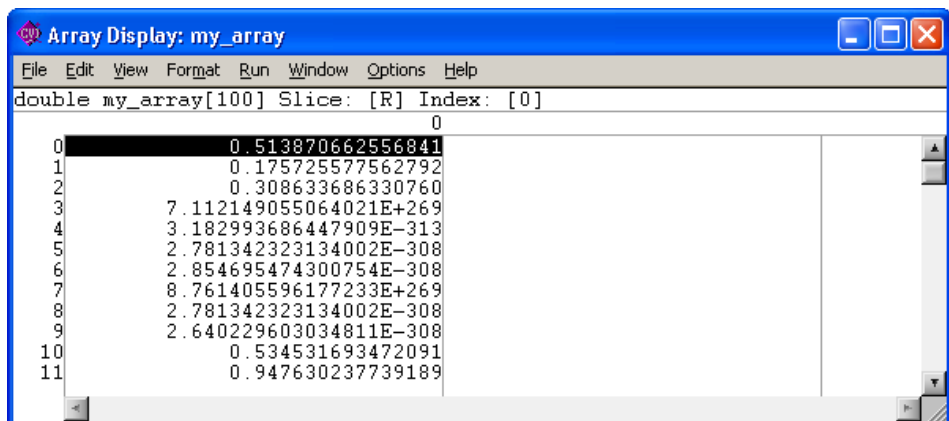

Figure 4-3. Array Display
3. Double-click `main` in the Stack Trace to view the variables defined in `main`. In the Variables window, double-click `my_array` to view `my_array` in the Array Display, as shown in Figure 4-3.
Note The actual values in your array might differ from the values shown in Figure 4-3. This example generates numbers between 0 and 1. The numbers shown in Figure 4-3 for index 3 through 9 are invalid, uninitialized values.
The Array Display shows the values of array elements in tabular format. In Figure 4-3, the array, `my_array`, is a one-dimensional array, so the display consists of one column of numbers. The numbers in the column on the left side of the display indicate the index number. The first element is zero.